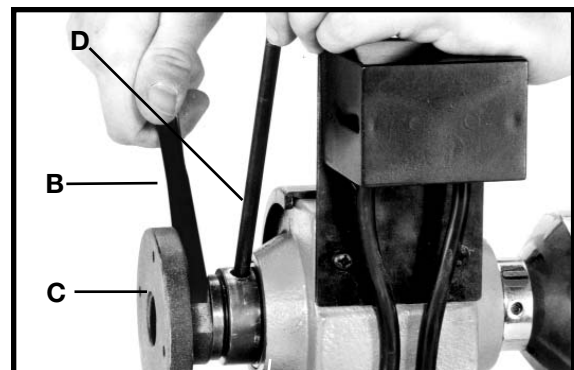

Fig. 15
3. Thread faceplate (C) Fig. 15 on spindle. Insert knockout bar (D) into hole in spindle to keep it from turning, and tighten faceplate (C) with supplied wrench (B) on flats.